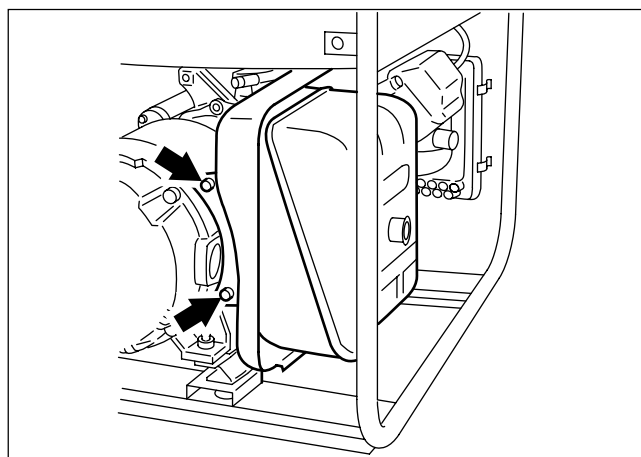

Fig. 10-32
(6) Tighten the muffler bracket to the generator cover. (See Fig.10-32.)